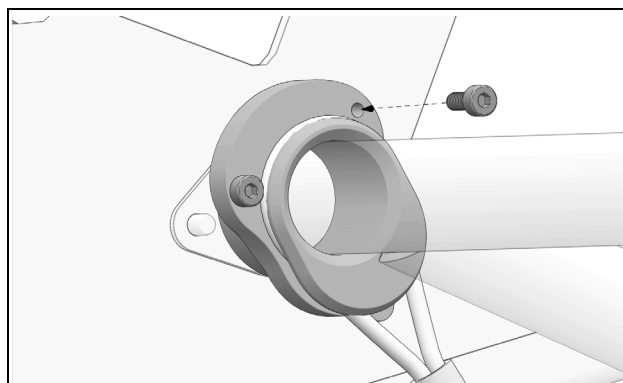

Figure 16
- Re-install bolt that was removed to complete adjustment. Figure 16.